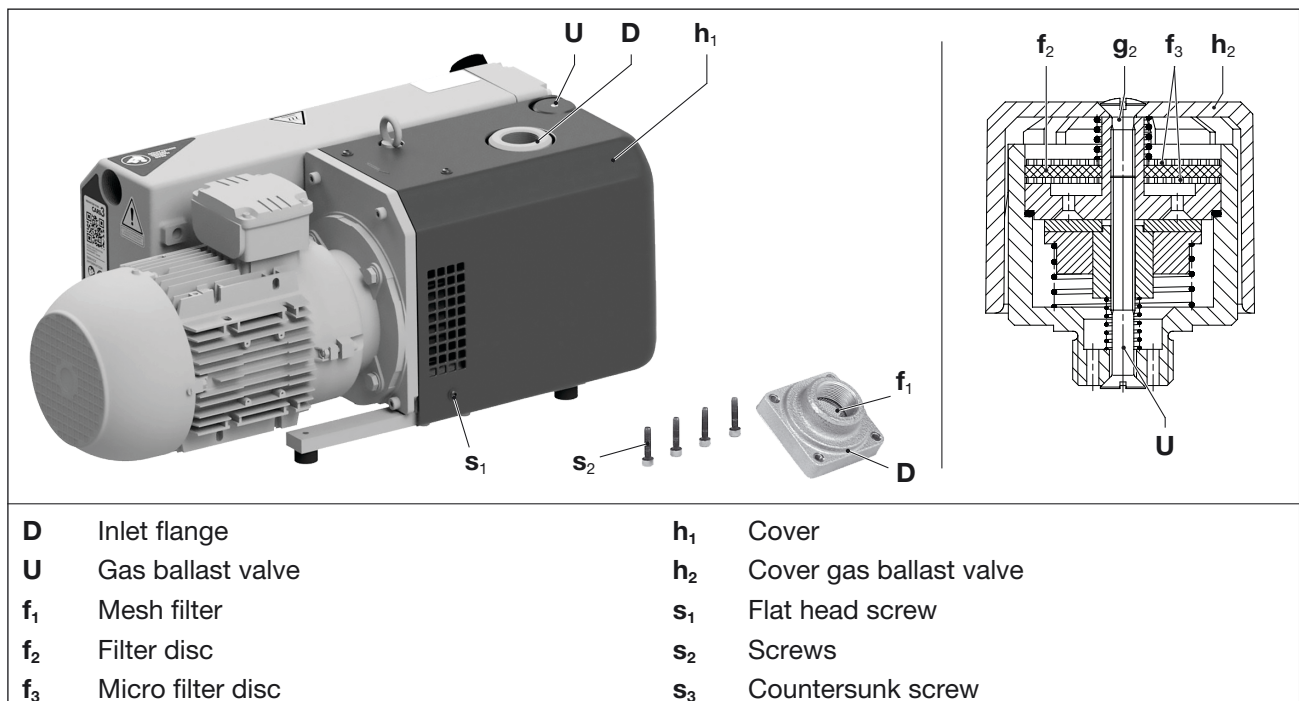

Fig. 6 Mesh filter and gas ballast valve
Depending on the pollution of the inlet medium, the mesh filter (Fig. 6/f₁) has to be cleaned more or less by washing or blowing off or it must be replaced.
- Loosen four flat head screws (Fig. 6/s₁) on the cover (Fig. 6/h₁) and remove the cover.
- Loosen four screws (Fig. 6/s₂) on the suction flange (Fig. 6/D) and remove the suction flange.
- Clean the mesh filter (Fig. 6/f₁) in the suction flange.
- Put on the suction flange (Fig. 6/D) and secure it with the screws (Fig. 6/s₂). Tightening torque: 25 Nm
- Put on the cover and secure it with the flat head screws (Fig. 6/s₁). Tightening torque: 5 Nm
The pumps work with a gas ballast valve (Fig. 6/U). The inbuilt filter disc (Fig. 6/f₂) and micro filter discs (Fig. 6/f₃) must be cleaned more or less often depending on how dirty the medium flowing through is. In case of the VCX, clean the filter parts of the two gas ballast valves.
- By undoing the countersunk screw (Fig. 6/s₃) and removing the plastic cover (Fig. 6/h₂), the filter parts can be removed for cleaning.
- Clean the filter disc (Fig. 6/f₂) and the both micro filter discs (Fig. 6/f₃) by purging or replace it.
- Place the filter disc (Fig. 6/f₂) between the micro filter discs (Fig. 6/f₃) and insert into the valve. Put on the plastic hood (Fig. 6/h₂) and fasten with the countersink screw (Fig. 6/s₃). Tighten the screw by hand.